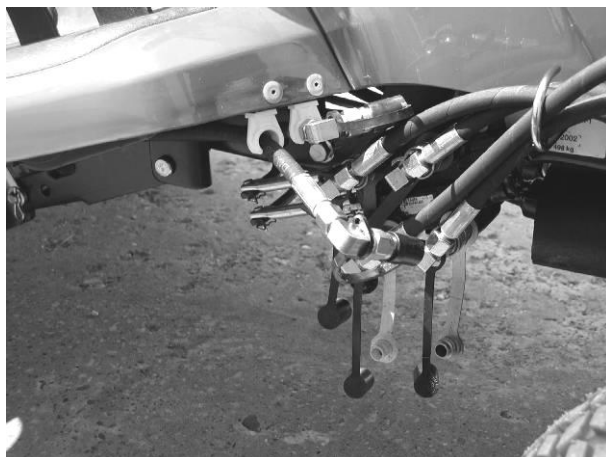

Fig. 16: Attaching the hose holders
7. Rivet the hose holders to the tractor body and connect the hydraulic lines (see Fig. 16). These hose holders are used as a parking possibility for the hoses when the hoses are uncoupled from the control valve and the valve is used for other purposes.